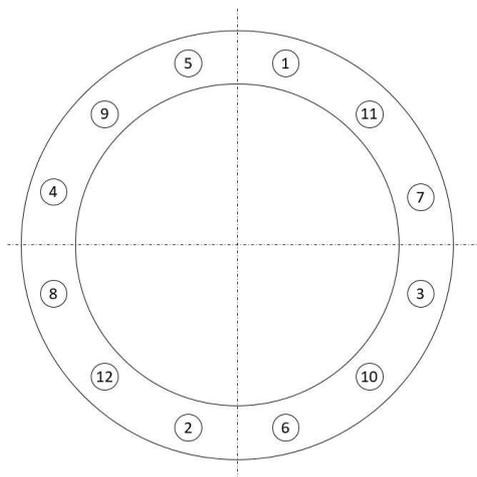

Fig. 1, Tightening sequence flange bolts – a similar criss-cross pattern should be followed for the other numbers of bolts
- Tighten the bolts in increments keeping the flanges parallel during the process and following a diagonal sequence as sketched on Fig. 1